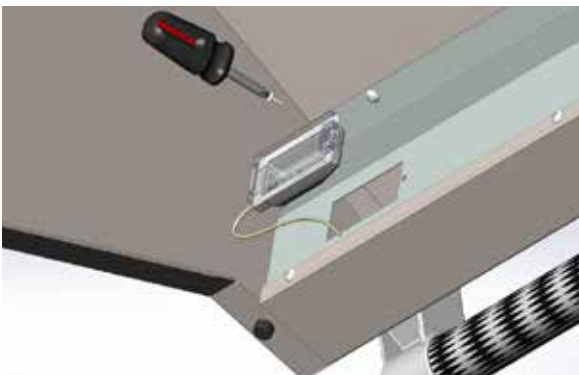

Figure 10
2. Open hood and remove the small screw holding the lamp assembly in place (Fig. 10). Remove the lamp assembly, being careful not to drop the glass lens.